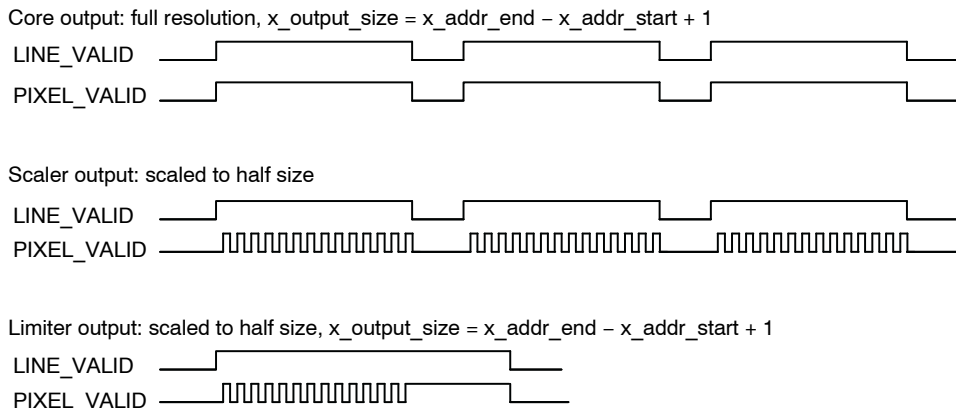

Figure 11. Effect of Limiter on the SMIA Data Path
When the scaler is enabled, it is necessary to adjust the values of x_output_size and y_output_size to match the image size generated by the scaler. The MT9D015 will not operate properly if the x_output_size and y_output_size are significantly larger than the output image. To understand the reason for this, consider the situation where the sensor is operating at full resolution and the scaler is enabled with a scaling factor of 32 (half the number of pixels in each direction). This situation is shown in Figure 11.
In Figure 11, three different stages in the SMIA data path (see “Digital Data Path”) are shown. The first stage is the output of the sensor core. The core is running at full resolution and x_output_size is set to match the active array size. The LINE_VALID (LV) signal is asserted once per row and remains asserted for N pixel times. The PIXEL_VALID